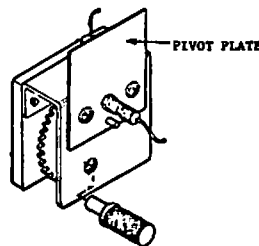

FIGURE 5-17 FIRST CHARACTER POSITION ADJUSTMENT
- 1) Place adjustment plug through pivot plate hole and into timing disk hole. Check for a distance of $1.18" \pm .01"$ ($3 \text{ cm} \pm .025 \text{ cm}$) between carriage assembly and left side frame (Figure 5-17), or remove print head and insert first character position alignment tool in ribbon cartridge assembly. With plug removed from timing disk, move carriage to the left until alignment tool is against inside edge of the left side frame. You should be able to insert plug into index hole without moving the carriage away from side frame.